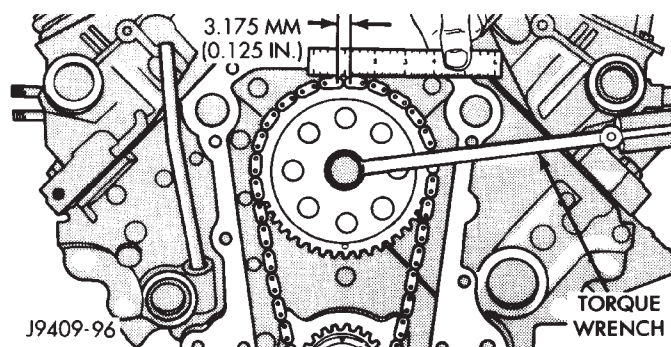

Fig. 6 Measuring Timing Chain Wear and Stretch
(1) Place a scale next to the timing chain so that any movement of the chain may be measured.
(2) Place a torque wrench and socket over camshaft sprocket attaching bolt. Apply torque in the direction of crankshaft rotation to take up slack; 41 N·m (30 ft. lbs.) torque with cylinder head installed or 20 N·m (15 ft. lbs.) torque with cylinder head removed. With a torque applied to the camshaft sprocket bolt, crankshaft should not be permitted to move. It may be necessary to block the crankshaft to prevent rotation.
(3) Hold a scale with dimensional reading even with the edge of a chain link. With cylinder heads installed, apply 14 N·m (30 ft. lbs.) torque in the reverse direction. With the cylinder heads removed, apply 20 N·m (15 ft. lbs.) torque in the reverse direction. Note the amount of chain movement (Fig. 6).